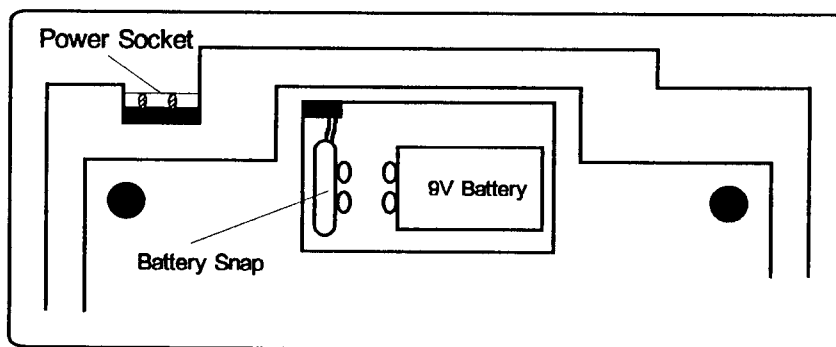

Figure 1. Bottom view of instrument showing power connections.
- A battery should always be used to protect calibration data in the event of a power failure. Install the battery as shown in figure 1.